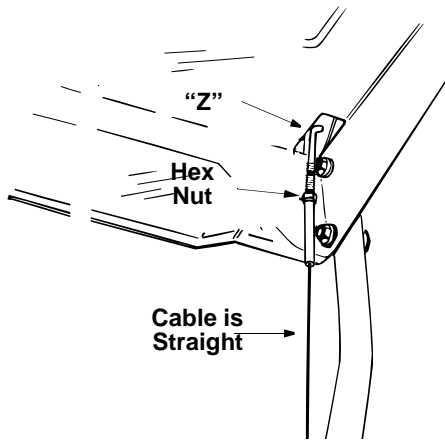

Figure 12
3. Thread the cable onto the threaded portion of the "Z" end until there is no slack in the cable, but the cable is NOT tight. Do not overtighten cable. See Figure 12.
3. If necessary, loosen the hex jam nut and thread the cable in (for less slack) or out (for more slack) as necessary. Refer to Figure 12. Recheck the adjustment. Tighten the jam nut against the cable when correct adjustment is reached.